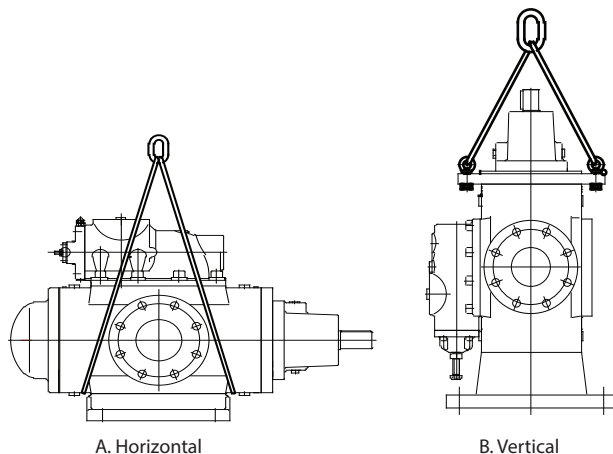

Figure 3.1 – Lifting the Pump Head
2. When lifting the pump, attach lifting hooks to outlet flanges as seen in Figure 3.1.